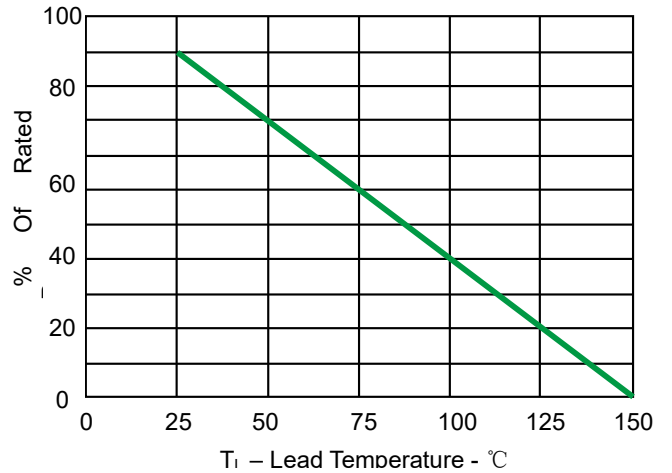
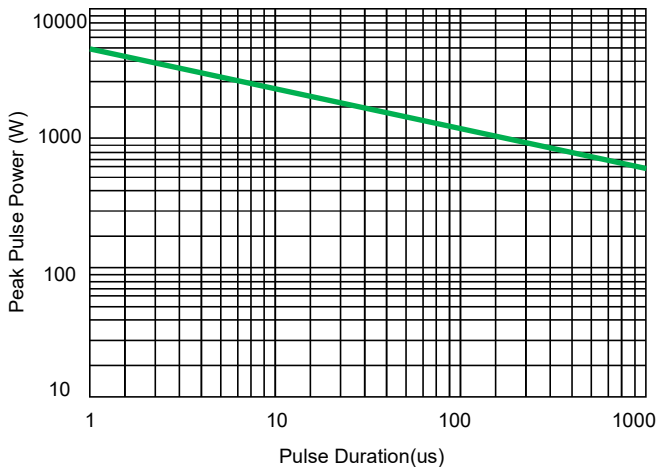

Fig 2. Power Derating Curve
Fig 3. Non Repetitive Peak Pulse Power vs. Pulse time
- 1: Non-repetitive current pulse per Fig 3 and derated above TA=25°C per Fig 2